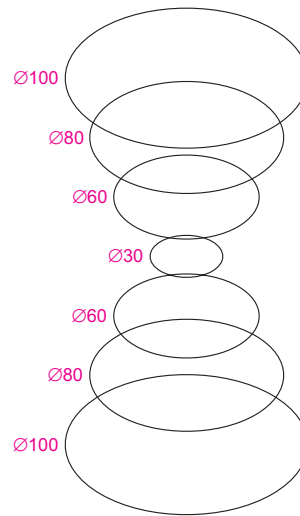

Fig. 12.41 Example **Loft** – the cross sections
1. Construct the seven circles shown in Fig. 12.41 at vertical distances of **30** units apart.